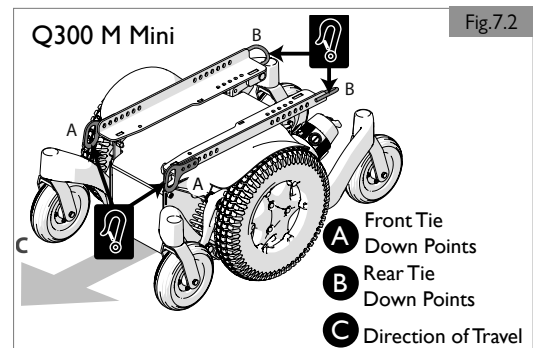

Fig.7.2
- Secured with a 4-point strap restraint system (2 in the front, 2 in the back (Fig.7.2), that conforms to:
- The wheelchair can only be secured by using the tie-down points on the wheelchair's frame (Fig. 7.2)